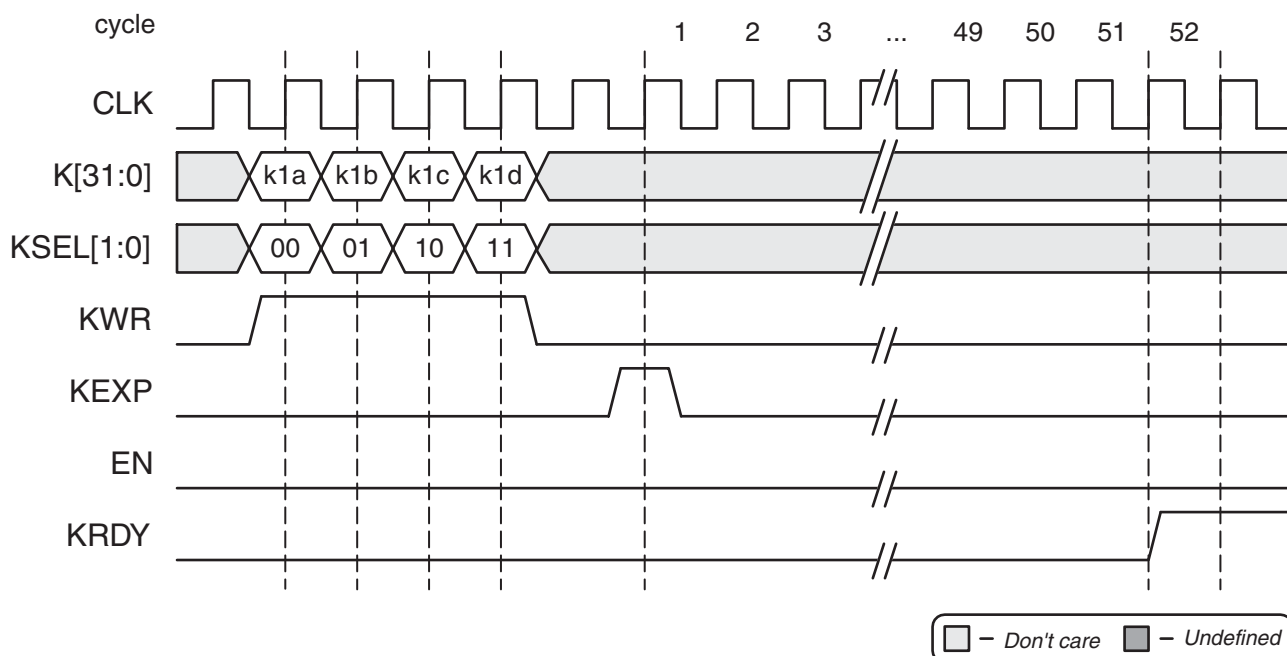

Figure 6 • Cipher Key Write and Expand
Prior to any encryption or decryption operation, the 128-bit cipher key needs to be written to CoreAES128, and expanded, as illustrated in Figure 6. Refer to FIPS PUB 197 for the algorithmic details of the key expansion process.
If the KRDY signal was active at a logic '1' value, prior to setting the KWR signal to logic '1' (from a previously expanded cipher key), it becomes inactive on the next rising clock edge after performing step 4 in the list above. After 52 clock cycles, the KRDY signal becomes active, i.e., logic '1,' to indicate that the 128-bit cipher key was expanded internally, and the CoreAES128 macro is now ready for encryption or decryption operations. The KRDY signal initializes to the inactive state of logic '0' after a reset condition, as illustrated in Figure 6, and prior to the key expansion process.
2. Set D[127:0] to the plaintext data ("d1" in Figure 6) to be encrypted.